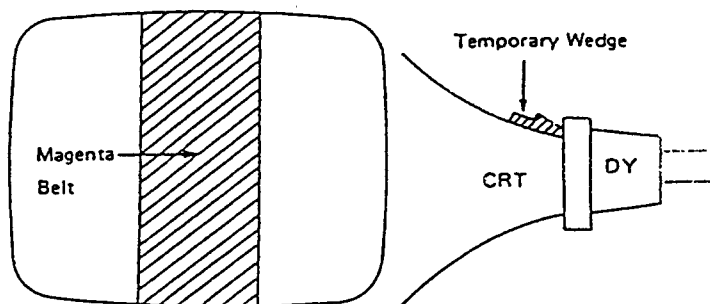

Fig. 11
3. Pull the deflection yoke backward so that the magenta belt will appear. (See Fig. 11)
4. Move the two purity magnets and bring the magenta belt to the mechanical center of the screen. (See Fig. 11)
10. Insert the temporary wedge as shown in Fig. 11 and adjust the angle of deflection yoke.